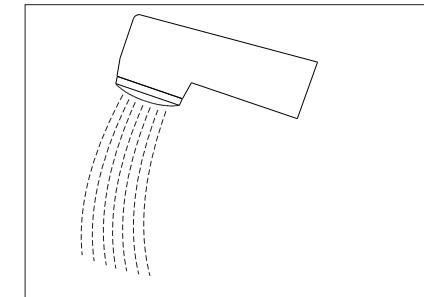

Fig 4.
- 8) Adjust the hot flow by the isolation adapter to give a spray pattern (Fig 4). This is easily achieved by turning the isolating adapter to full flow (Fig 3) and then reducing to the curved spray pattern as shown in Fig 4.
- 10) Then open the cold flow isolation adapters to give a curved spray pattern again as shown in Fig 4.